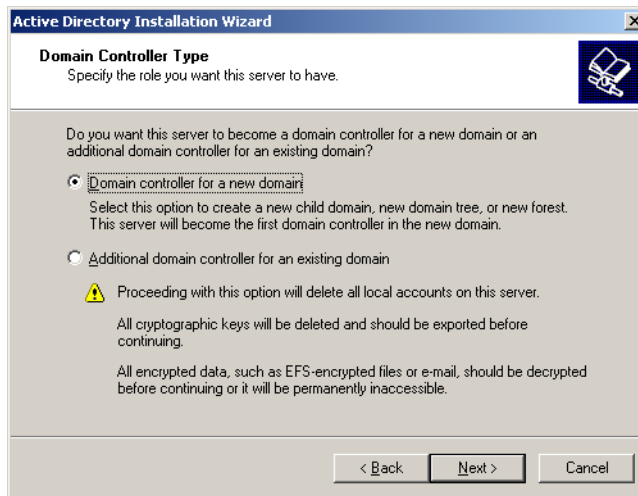

Figure D-8 Domain controller type dialog
10. From the dialog shown in figure D-8, select **Domain controller for a new domain** (default) radio button, and then click the **Next** button.